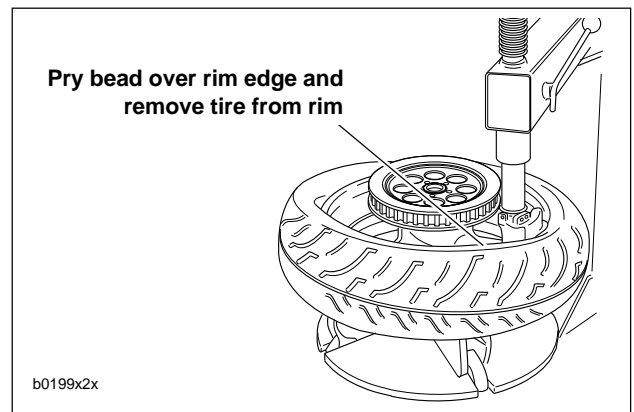

Figure 2-28. Starting Tire Off Rim
5. See Figure 2-28. Push lower bead into rim well on one side and insert tire tool underneath bead from opposite side. Pry bead over rim edge. Remove tire from rim.